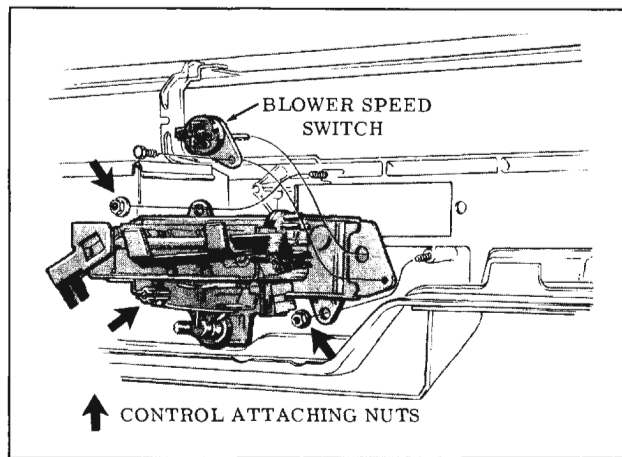

Fig. 15-37 Control Assembly Installation
**Removal and Installation (Fig. 15-37)**